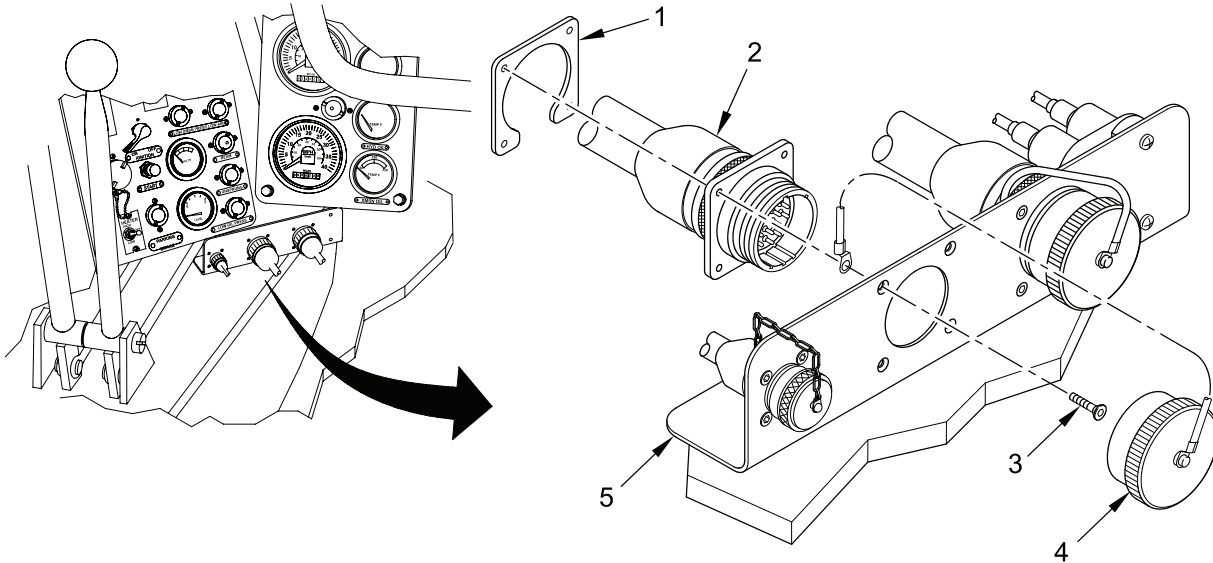

Figure 3. Removing Wiring Harness W2 Connector J1 At Disconnect Bracket
5. Remove dust cap (Figure 3, item 4), four screws (Figure 3, item 3), nutplate (Figure 3, item 1), and wiring harness W2 connector J1 (Figure 3, item 2) from HDC disconnect bracket (Figure 3, item 5).
2. Install wiring harness W2 connector J1 (Figure 3, item 2) to HDC disconnect bracket (Figure 3, item 5) with nutplate (Figure 3, item 1), and four screws (Figure 3, item 3). Attach dust cap (Figure 3, item 4) to connector J1.